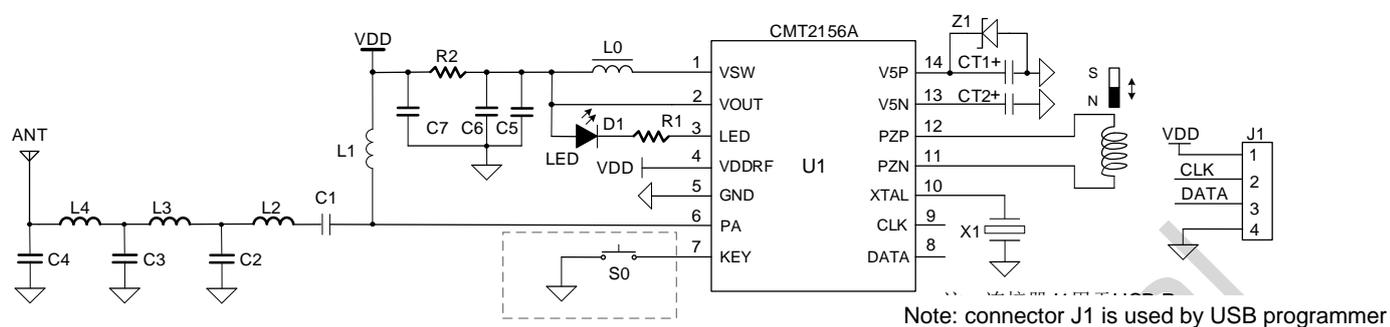

Figure 8. CMT2156A Typical Application Schematic Diagram
- [4]. The harmonic output is measured in the application as shown in Figure 8.